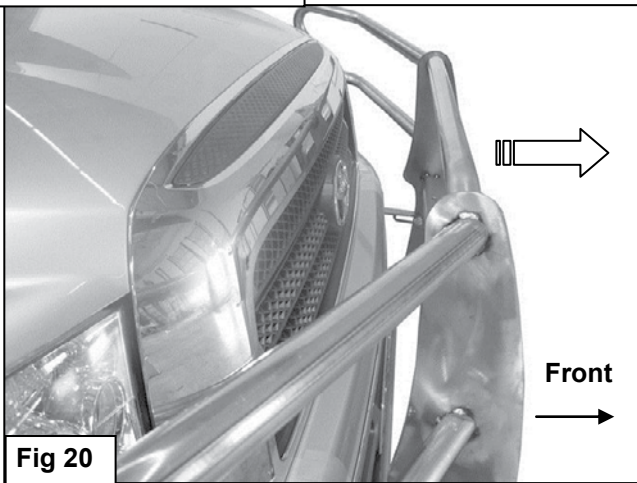

Fig 20
17. Release/loosen the levers on the Quick Release Bolts, **(Figure 19)**, and pull the Grille Guard away from the vehicle to the "open" position, **(Figure 20)**. **NOTE:** It may be necessary to slightly loosen the top (2) 12mm Hex Bolts on the Frame Mounting Brackets to move the Grille Guard, **(Figure 21)**. Center and level the Grille Guard and tighten all hardware including the Frame Mounting Brackets.
22. Lift the levers on the Quick Release Bolts to release the clamping pressure, (Figure 19). Pull the Grille Guard out and away from the vehicle to the "open" position, (Figure 20). **NOTE:** If the Grille Guard does not pivot to "open" position, **slightly loosen the 12mm upper Hex Bolt on each Mounting Bracket, (Figure 21).** **WARNING!** Do not completely loosen bolts or damage to the truck may occur.
23. Carefully pull on the Grille Guard until it is fully extended away from the vehicle, (Figure 20).
25. **IMPORTANT!** Before closing the hood, always make sure that the Grille Guard is in the fully "open" position and away from the vehicle. Pull on the Grille Guard to verify that it is fully extended away from the vehicle and slowly close the hood, (Figure 20).